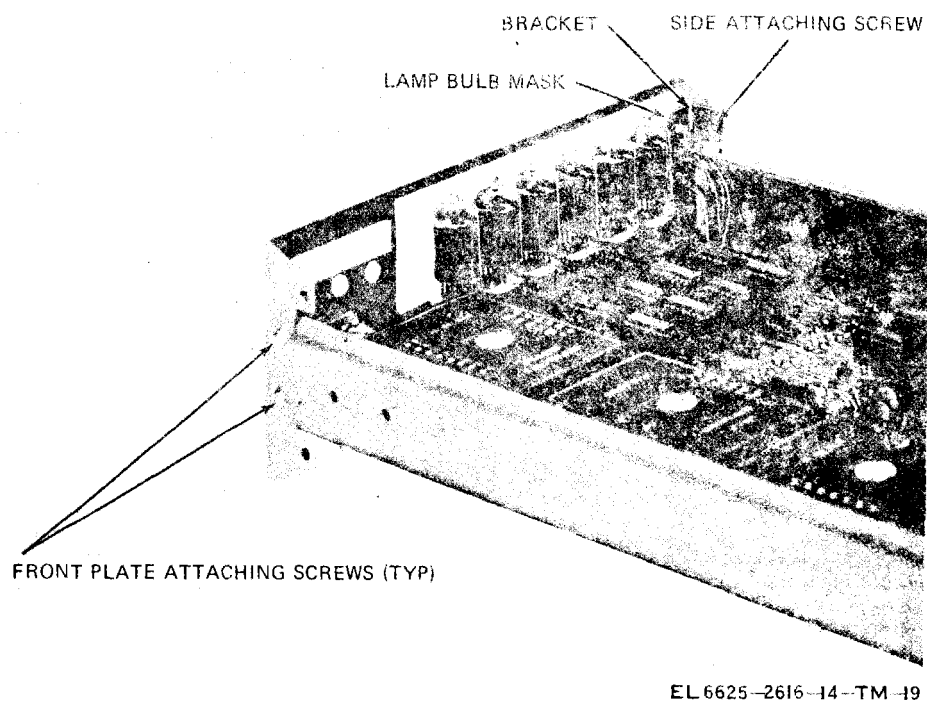
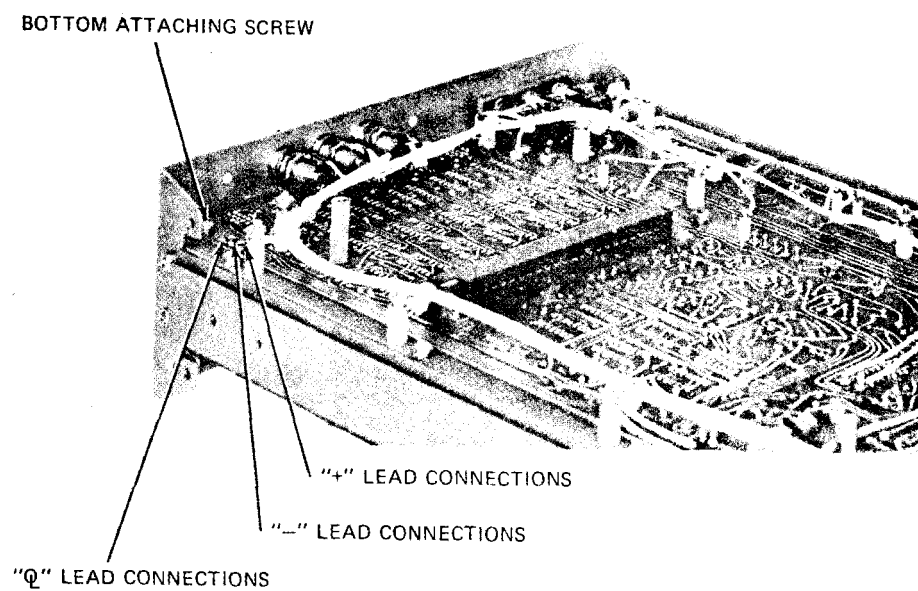

Figure 7-1. Lamp bulb bracket and front plate removal.
Figure 7-2. Lampbulb bracket removal and lamp bulb leads.
(7) Remove polarity and overload lamp bulb bracket by removing screw at side of instrument (fig. 7-1) and screw on bottom of instrument (fig. 7-2).
(8) Pull front plate away from chassis by removing two screws on each side of plate and by removing nut attaching EXT REF VDC toggle switch to front plate.
(1) Remove power cord from power outlet, fuse holder, top and, bottom covers, and top and bottom shields (a(1) through a(4) above),
(2) Remove bezel and front panel (a(6) above).
(3) Remove polarity and overload lamp bulb bracket (a(7) above).
(4) Pull lamp bulb bracket away from front plate and remove lamp bulb mask (fig. 7-1). Note that the mask is installed so that "+" polarity indicator is at the top.
(5) Remove retaining ring holding faulty bulb to bracket.
(6) Remove faulty bulb from opening in bracket.
(7) Unsolder leads of faulty bulb at points indicated in figure 7-2.
(8) Solder new leads into place, taking care to ensure a firm and clean solder connection.